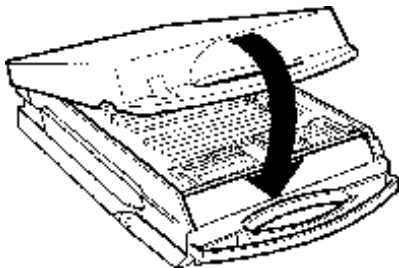

Figure 4-13. Close the lid and press the green dot on the cassette lid until the release button pops out.
3. Refer to Figure 4-13. Close the cassette lid. Fold the lid down to its locked position. The release button should pop-out allowing the lid to meet cleanly with the body of the cassette.